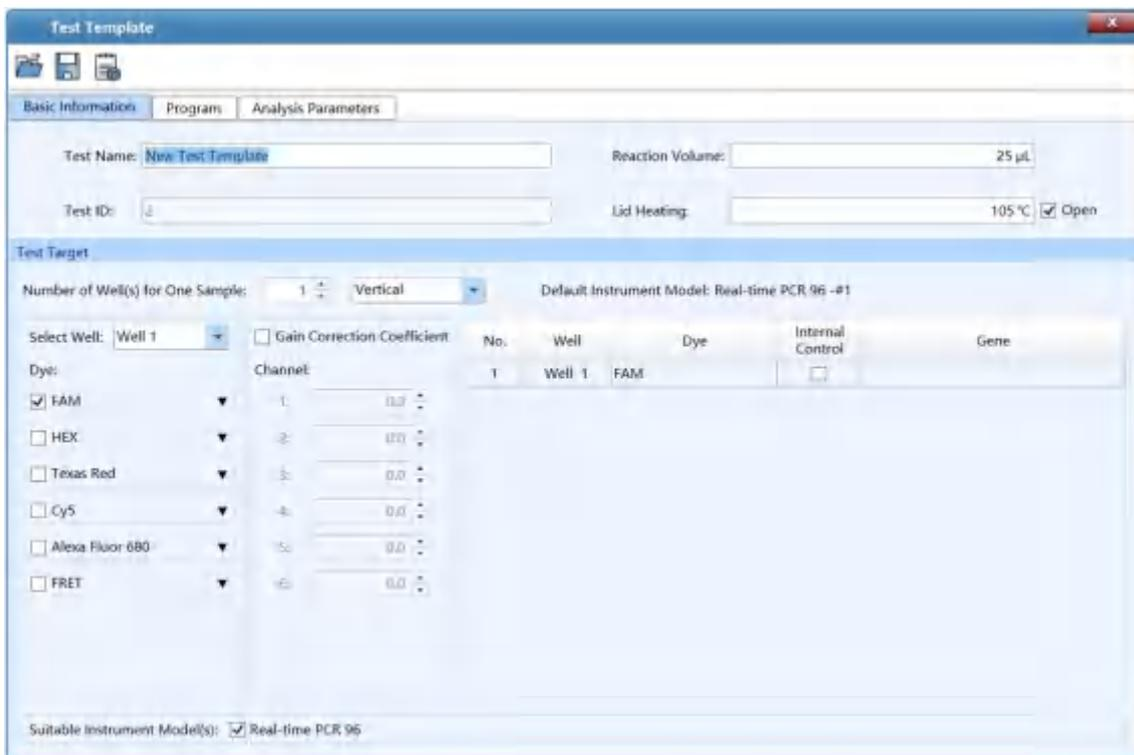

Figure D-2.5a Research Report interface – Basic Information
4. **New Test Template:** click the **New Test Template** option in **Tool** submenu and the application software will automatically pop up the test template interface, which consists of three tabs: **Basic Information**, **Program** and **Analysis Parameters**. Users can set the parameters and information of the new test template in this interface. The test template interface displays the **Basic Information** tab by default, as shown in figure D-2.5a.
- ▶ **Basic Information** tab: is as shown in figure D-2.5a.